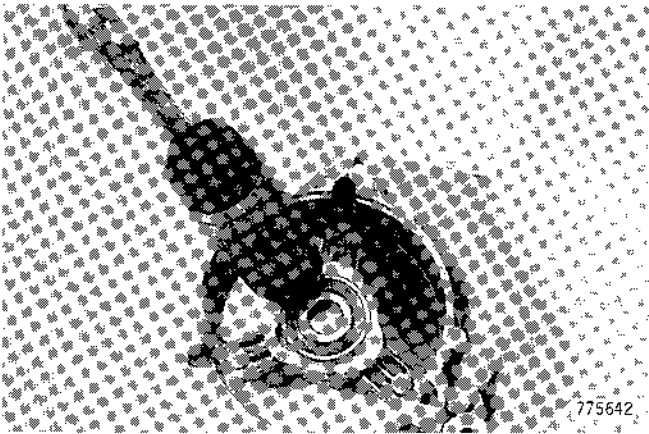

Figure 36
2. Tap new bearing into front frame, Figure 36.